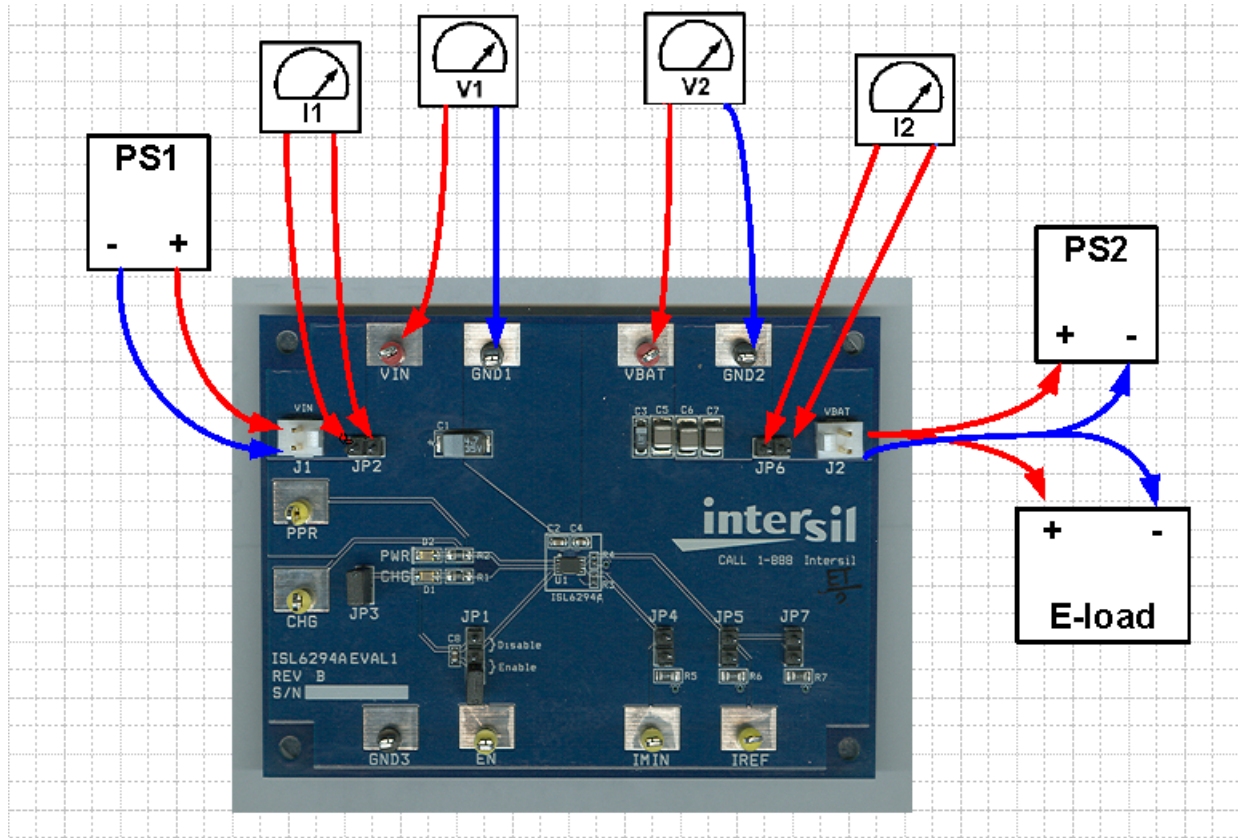

FIGURE 1. CONNECTION OF TEST INSTRUMENTS
Quick Setup Guide (Refer to Figure 1)
- Step 3: Connect a current meter to JP6, as shown in Figure 1
JP2 - A shunt installed on JP2 connects the input source from connector J1 to the circuit if input current measurement is not needed. The shunt can be replaced by a current meter if input current measurement is needed, as shown in Figure 1.
JP6 - A shunt installed on JP6 connects the BAT pin to the output connector J2 if output current measurement is not needed. The shunt can be replaced by a current meter if output current measurement is needed as shown in Figure 1.